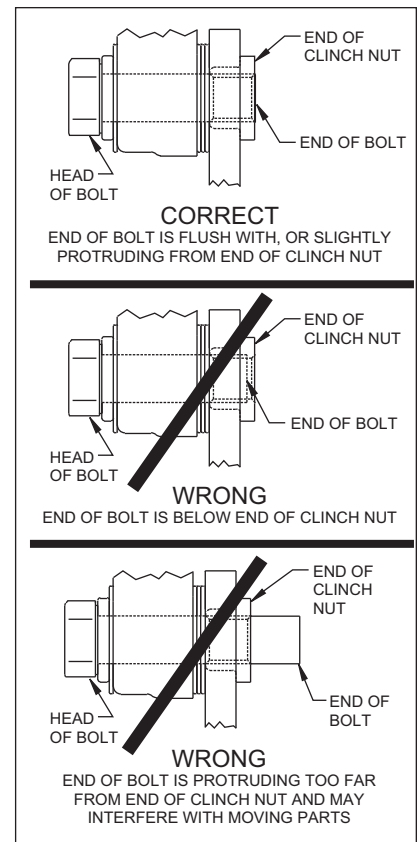

Figure 4.
NOTE: The end of the bolt must be flush with or slightly protruding from the head of the clinch nut. See Figure 4. Place spare shims (23) between washer and caliper mounting ear to achieve the proper mounting fastener configuration. Always use the same amount of shims on both the top and bottom caliper mounting bolts (21). Loosen the two bolts (21) and apply red *Loctite*® 271 to bolt threads (21) and torque to 40 ft-lb. Safety wire the two bolts (21).
- Install the disc brake pads (24) and secure using cotter pin (25). Repeat this procedure for the other wheel.